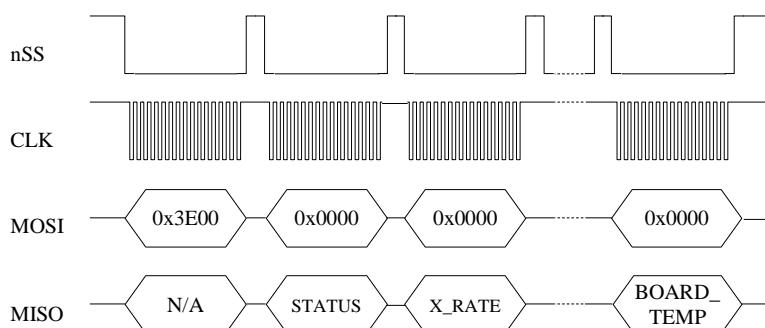

Figure 11 Multiple Register Read via Burst-Mode
Burst-mode begins when the master requests a read from a burst-mode data-packet (i.e. 0x3E). Eight additional SPI cycles complete the read (one for each word in the standard data-packet). Figure 11 illustrates the burst-mode sequence. Note: if the incorrect number of SPI cycles follow the burst-mode command, the SPI transfer will either complete early or remain in burst-mode; subsequent reads/writes will be out of sync with the SPI transfer cycle of the DMU380ZA.
- Toggle nSS in between each of the 16-bit words (as shown in Figure 11).